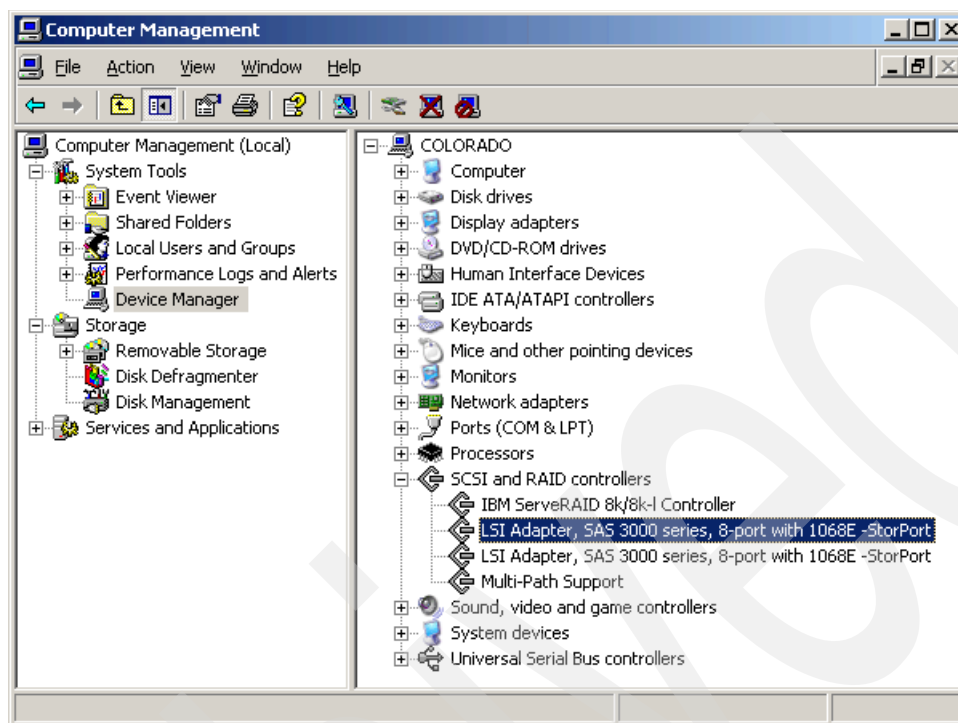

Figure 16-6 Checking the SAS HBA driver status in Device Manager
6. When this is done, verify in Device Manager that both SAS HBAs are listed and available, as shown in Figure 16-6.